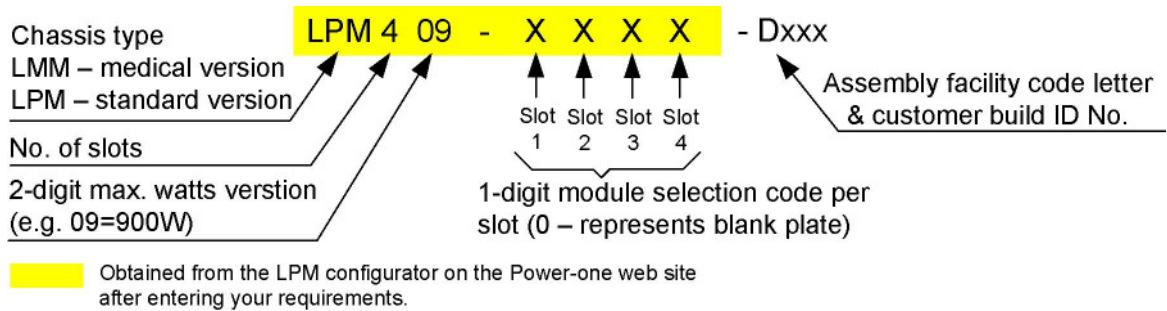

Fig.3 LPM 4-Slot model part number description
¹ To determine your desired power supply's part number, please refer to *Fig.3* for a detailed part number description. Use the **LPM Configurator** located in the Modular Section on our website, or use our contacts page to locate a distributor for further assistance. (http://lpm.power-one.com/cgi-bin/start.cgi/lpm/config_start.html)
- LPM409 .. Low Profile Modular 4-slot, 900W, with single-phase AC input. (see Fig.3)